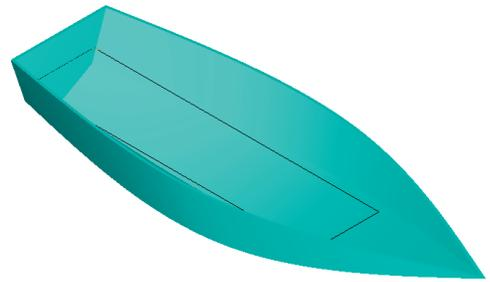

Fig. 2
- Step 10. Key-in **.05**, **.8** and press ENTER, **Fig. 2**.